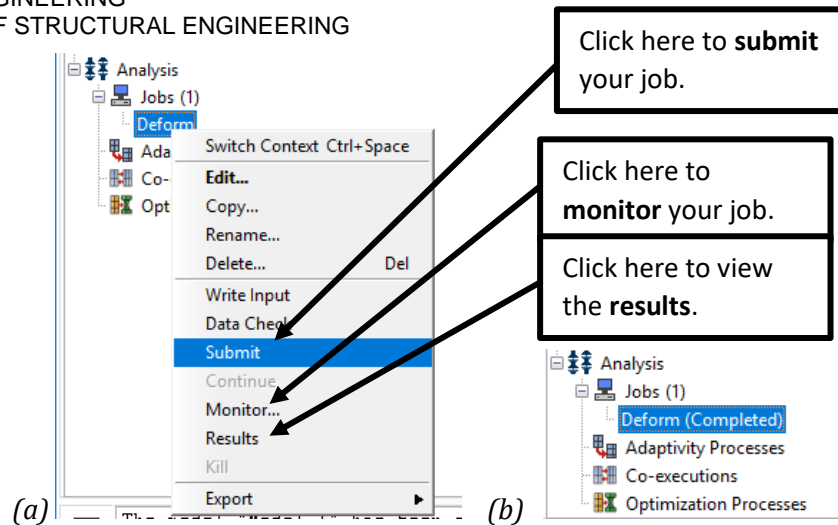

Figure 1-30 – (a) The menu for the Deform job and (b) status when the analysis has completed.
The menu for the job **Deform** appears, as shown in Figure 1-30(a).
The icon for the job will change to indicate the status of the job in parenthesis after the job name. As the job runs the status **Running** will be shown in the Model Tree. When the job completes successfully, the status will change to **Completed**, as shown in Figure 1-30(b).
- In the menu for the job **Deform**, Figure 1-30(a), click on **Monitor** to access the **Monitor** dialog box. Here the analysis status may be checked for **Errors** and **Warnings**. **This should be checked for every analysis.** The same information can be found in the **.msg** and **.sta** files in your working directory.
- Right-click on your job-file in the **Model Tree** and choose **Results**. See Figure 1-30.